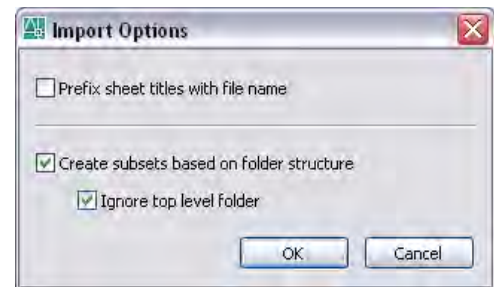

Figure 1.
- Choose Import Options and set the options as indicated in Figure 1.